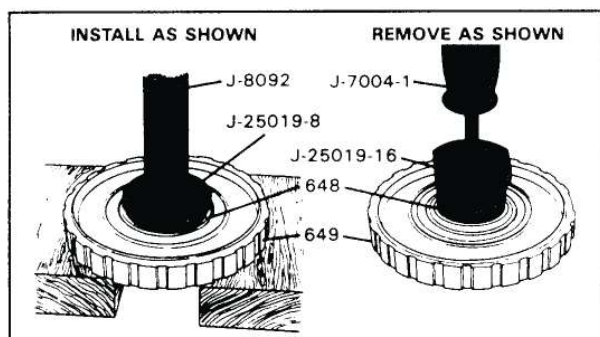

Figure 71
32. Remove and install new bushing in Lo/Reverse support as necessary, as shown in Figure 71.